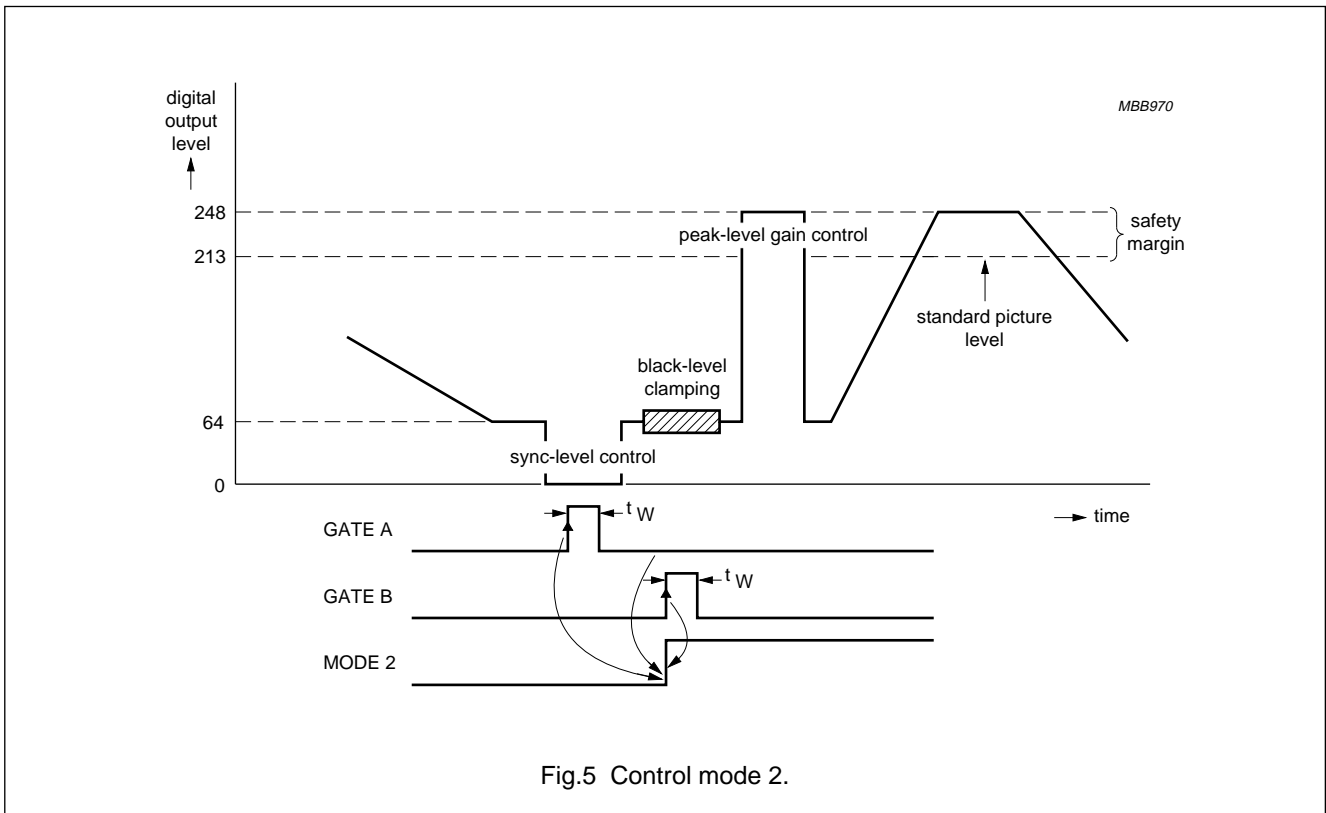

Fig.5 Control mode 2.
2. Mode 2 can only be initialized with successive pulses on GATE A and GATE B (see Fig.5).